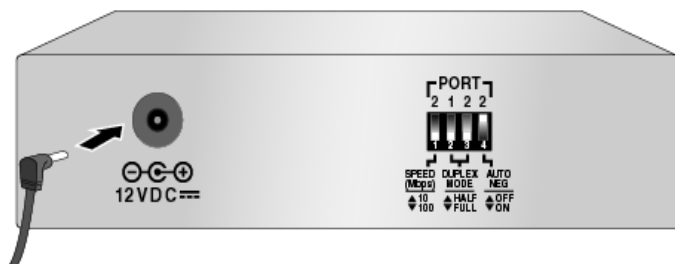

Figure 8 Connecting an 12VDC Powered Unit
1. Plug one end of the DC power cord to the power receptacle connector labelled 12VDC on the back panel of the bridging converter, as shown in Figure 8. Plug the AC/DC power adapter to a power outlet. (Refer to “**Technical Specifications**” on page 27 for power requirements.)